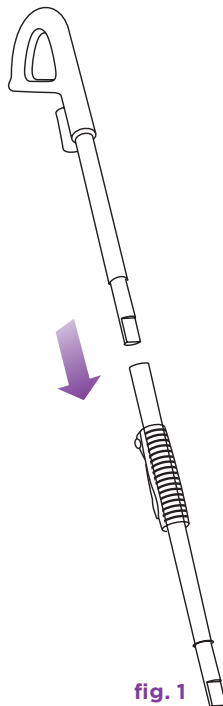

fig. 1
- 2 Slide the upper extension tube (the tube with the handle) into the lower extension tube (the short tube). Push the two extension tubes together in until you hear it click into place. (**fig. 1**)